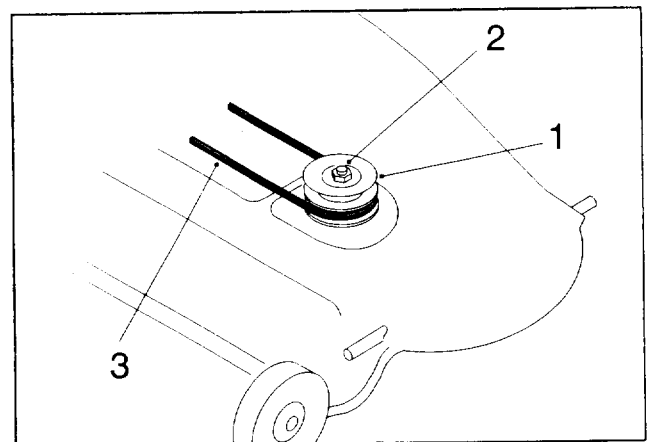

Figure 2
5. Slide the new double pulley onto the pulley shaft and secure it in place with a 5/8" lock washer and nut (Fig. 2). Make sure the word "TOP", stamped into smaller pulley, faces up. Tighten the nut to 60–80 ft-lb.
6. Install the existing mower belt by rotating it over the top pulley and onto the bottom pulley (Fig. 2).